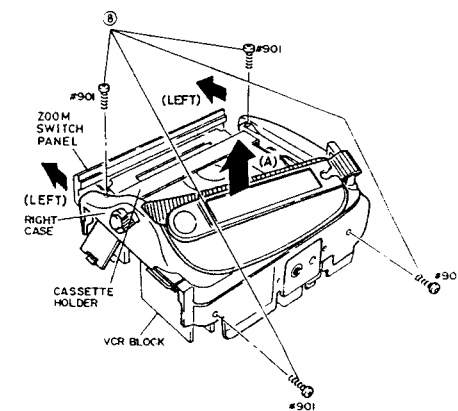

Fig. 2-16
- 9 Remove four (4) screws holding the right case. (See Fig. 2-16)
- 10 Lift the zoom switch panel, remove the right case in the direction of arrow (A).